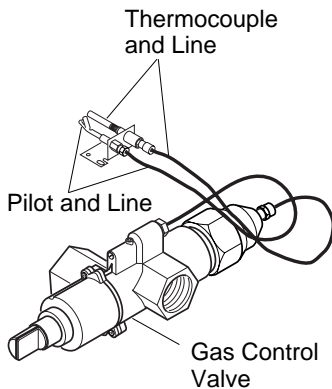

Figure 11 - Gas Control Valve with Thermocouple and Pilot
2. Attach the pilot gas line to the pilot outlet of the gas control valve and tighten. Connect the thermocouple to the rear of the gas control valve. See Figure 11. Do not overtighten. If using propane/LP gas, see *Changing Pilot Orifice*, page 11.